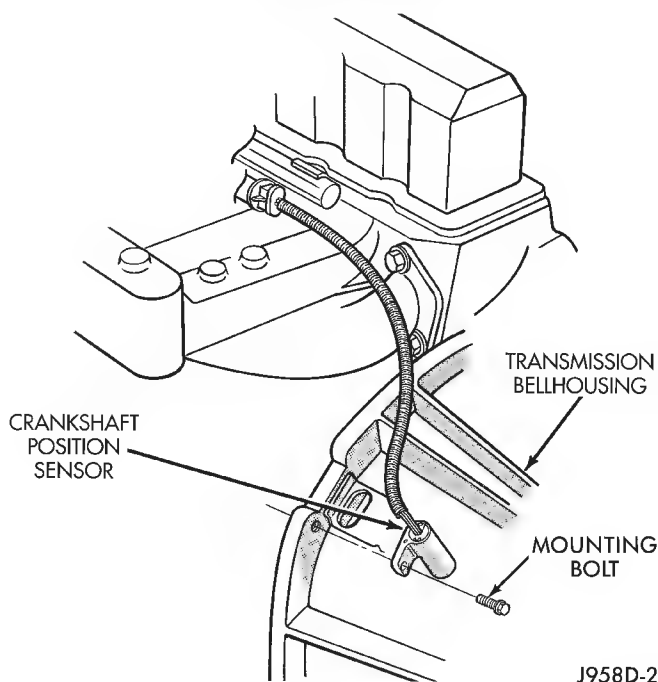

Fig. 6 Crankshaft Position Sensor—4.0L 6-Cylinder Engine—YJ models With Automatic Transmission
On YJ models with a 4.0L 6-cylinder engine and automatic transmission, the sensor is attached with a single bolt (Fig. 6).
- (1) Install the sensor into the access hole on the transmission.
- (2) Install sensor mounting bolt (Fig. 6).
- (3) Tighten sensor mounting bolt to 6-to-8 N·m (50-to-70 in. lbs.) torque.
- (4) Connect the electrical connector to sensor.
- (5) Install the dip to sensor wire harness.
- (6) Install dip over fuel rail mounting stud. Install dip mounting nut.